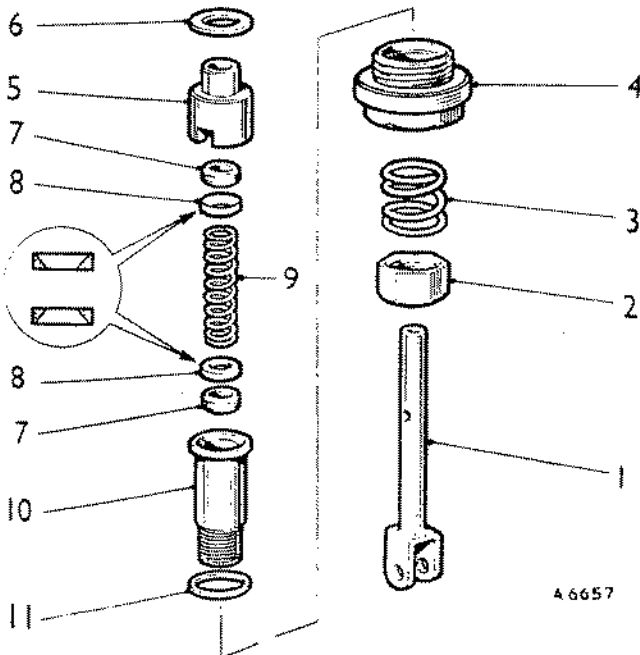

Fig. 4
- B. Reassemble the jet assembly in the reverse order to dismantling. Ensure that the washer is under the shoulder of the lower jet bearing, that the coned faces of the gland washers face towards the gland packing, and that the copper washer ([6], Fig. 4) is fitted with its sharp edge towards the upper jet bearing.